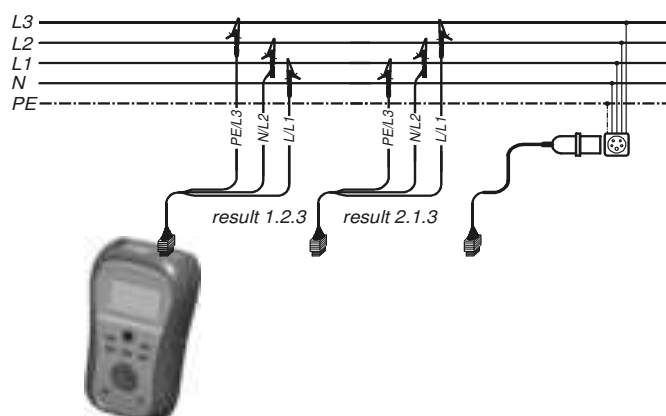

Figure 5.5: Connection of universal test cable and optional adapter in three-phase system
- ❑ **Connect** test leads to the item to be tested (see *figures 5.5 and 5.6*).